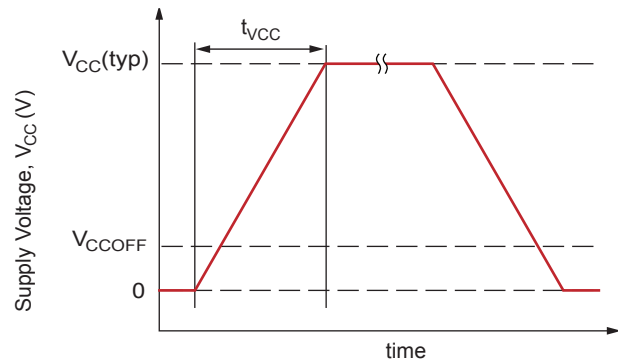

Figure 4. Definition of  $V_{CC}$  Ramp Time,  $t_{VCC}$
**$V_{CC}$  Ramp Time.** The time taken for  $V_{CC}$  to ramp from 0 V to  $V_{CC}(typ)$ , 3.3 V (see Figure 4).
**$V_{CC}$  Off Level.** For applications in which the VCC pin of the A31004 is being power-cycled (for example using a multiplexer to toggle the part on and off), the specification of  $V_{CC}$  Off Level,  $V_{CCOFF}$ , determines how high a  $V_{CC}$  off voltage can be tolerated while still ensuring proper operation and startup of the device (see Figure 4).